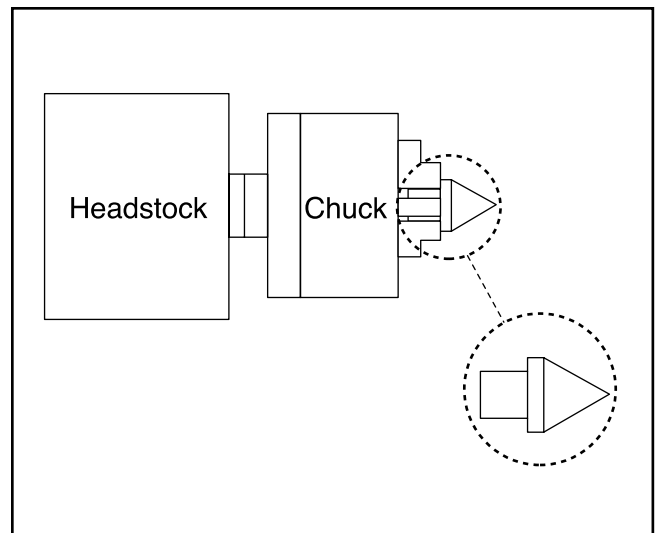

Figure 29. Making a dead center.
2. Make a dead center by turning a shoulder to make a shank. Flip the piece over in the chuck and turn a 60° point. **Figure 29.** As long as it remains in the chuck, the point of your center will be accurate to your spindle's axis. Keep in mind that the point will have to be re-turned whenever it is removed and returned to the chuck.